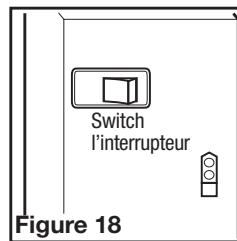

Figure 18
1. Remove the grill and find the rocker switch located on the triangular shaped wiring compartment in the corner of the fan housing (**Figure 18**).